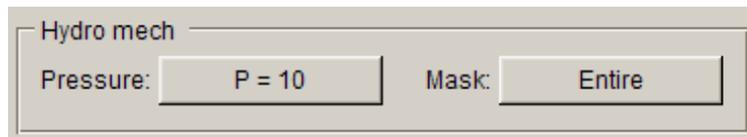

Figure 3.34 Hydroforming fluid pressure
- Click **OK** button to dismiss the HYDRO MECH dialog box. As illustrated in Figure 3.34, the **No Pressure** button is switched to **P=10** indicating the fluid pressure is defined.